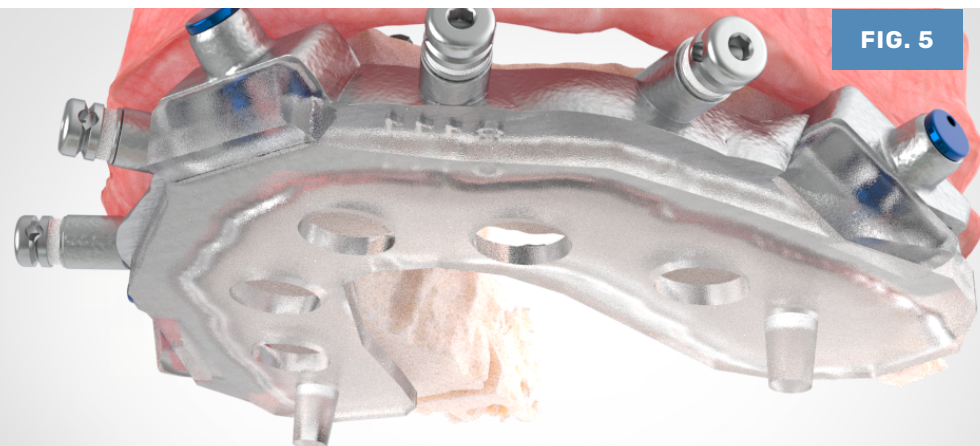

FIG. 5
2. Insert the Carrier Guide to ensure enough reduction. **(FIG. 5)** Repeat steps 1 and 2 until passive.